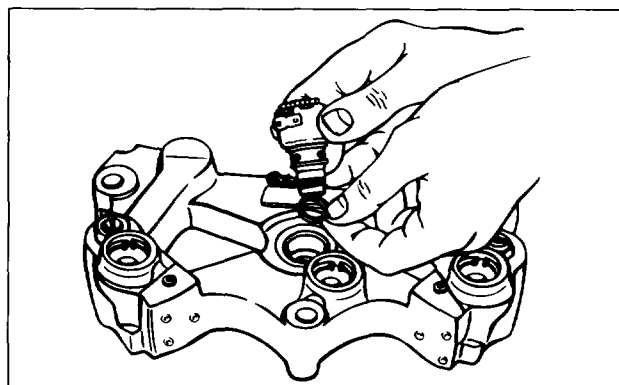

FIG. 23
5. Coat the new solenoid seal rings with clean engine oil. Install the upper and center seal rings on the solenoid body and the lower seal ring into the bottom of the solenoid bore in the housing (see Fig. 23).